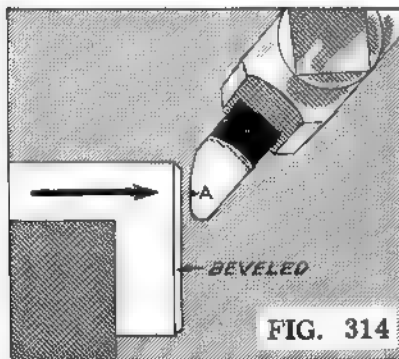

FIG. 314
2. File a small bevel on the edges of castings to prevent the sand and scale on their surfaces from dulling the keen cutting edge of the finishing tool. (Fig. 314).
4. Adjust the tool in the tool post so that its cutting edge at (A) in Figure 314 is parallel with the vertical surface. Tighten the tool-post screw.